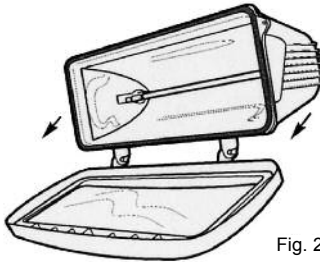

Fig. 2
3. Open hinged front cover. See Fig. 2.
2. Fasten the heater securely on the bracket using the nut and bolt supplied. See Fig. 1 and Fig. 2.